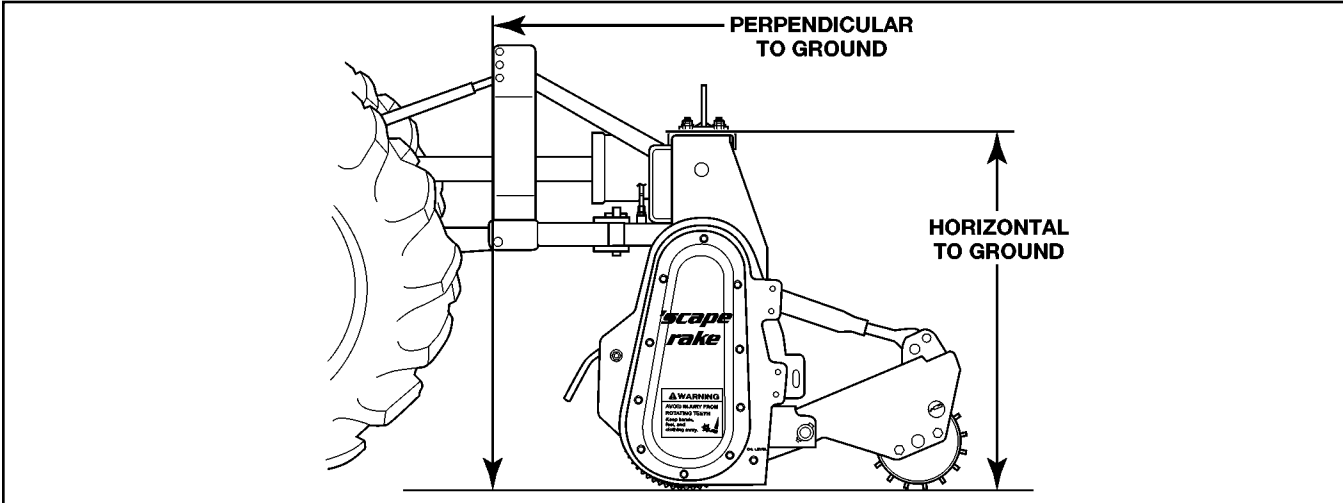

FIGURE 4 Leveling the Rotor
- H. For most operations the rake rotor should be parallel with the ground. **Adjust top link so that horizontal section of hitch frame is parallel to ground and vertical section of hitch frame is perpendicular to ground.** (See Figure 4.)